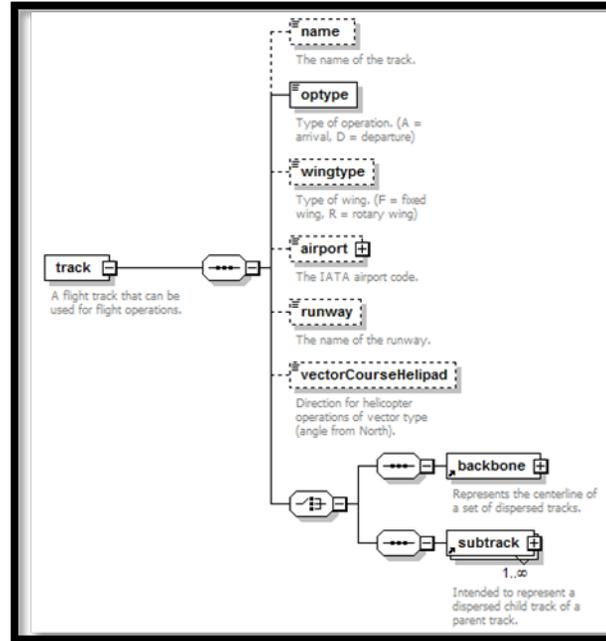

Figure 73. ASIF element – track
15. AsifXml/trackOpSet/track (Figure 73):